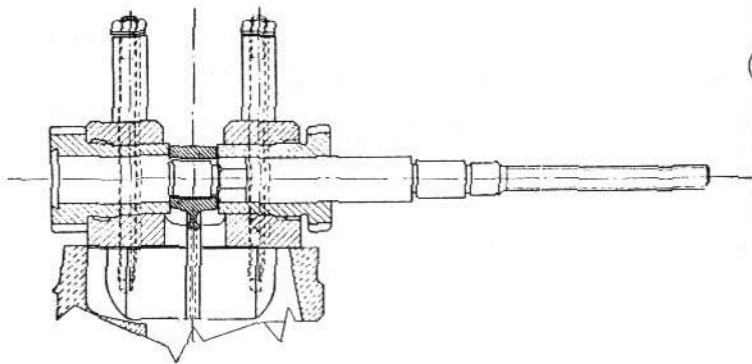

Fig. 40
To re-fit a 16 mm small end bush, place tool 54361 as for extraction. To re-fit a 14 mm small end bush, centre up tool with pin (1) inserted in con rod small end, as shown on fig. 40.
- Set bush on pin (1), placing it so that the slot and oil holes all coincide with those on the connecting rod when pressed home.
- Place pin (1) in body (4) and screw nut (2) until small end bush is in place in the connecting rod.